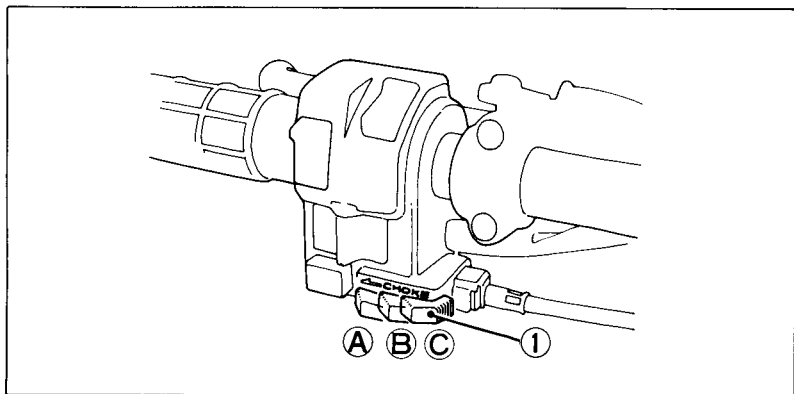

Fig. 2-7
The choke lever (Fig. 2-7) is next to the starter button. The choke has three positions: full choke (A), half choke (B), and off (C).